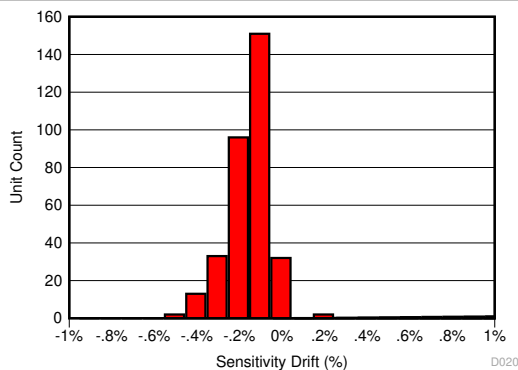
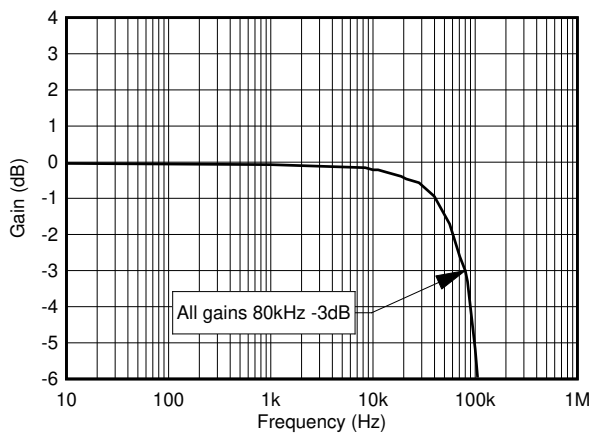

Figure 9-6. Sensitivity Error After 130°C, 85% RH HAST
**Figure 9-8. Input-Referred Offset Drift After AEC-Q100 High Temperature Operating Life Stress Test**
The same compensation techniques used in the TMCS1101 to reduce temperature drift also greatly reduce lifetime drift due to aging, stress, and environmental conditions. Typical magnetic sensors suffer from up to 2% to 3% of sensitivity drift due to aging at high operating temperatures. The TMCS1101 has greatly improved lifetime drift, as defined in the Electrical Characteristics for total sensitivity error measured after the worst case stress test during a three lot AEC-Q100 qualification. All other stress tests prescribed by an AEC-Q100 qualification caused lower than the specified sensitivity error, and were within the bounds specified within the Electrical Characteristics table. Figure 9-6 shows the total sensitivity error after the worst-case stress test, a Highly Accelerated Stress Test (HAST) at 130°C and 85% relative humidity (RH), while Figure 9-7 and Figure 9-8 show the sensitivity and offset error drift after a 1000 hour, 125°C high temperature operating life stress test as specified by AEC-Q100. This test mimics typical device lifetime operation, and shows the likely device performance variation due to aging is vastly improved compared to typical magnetic sensors.